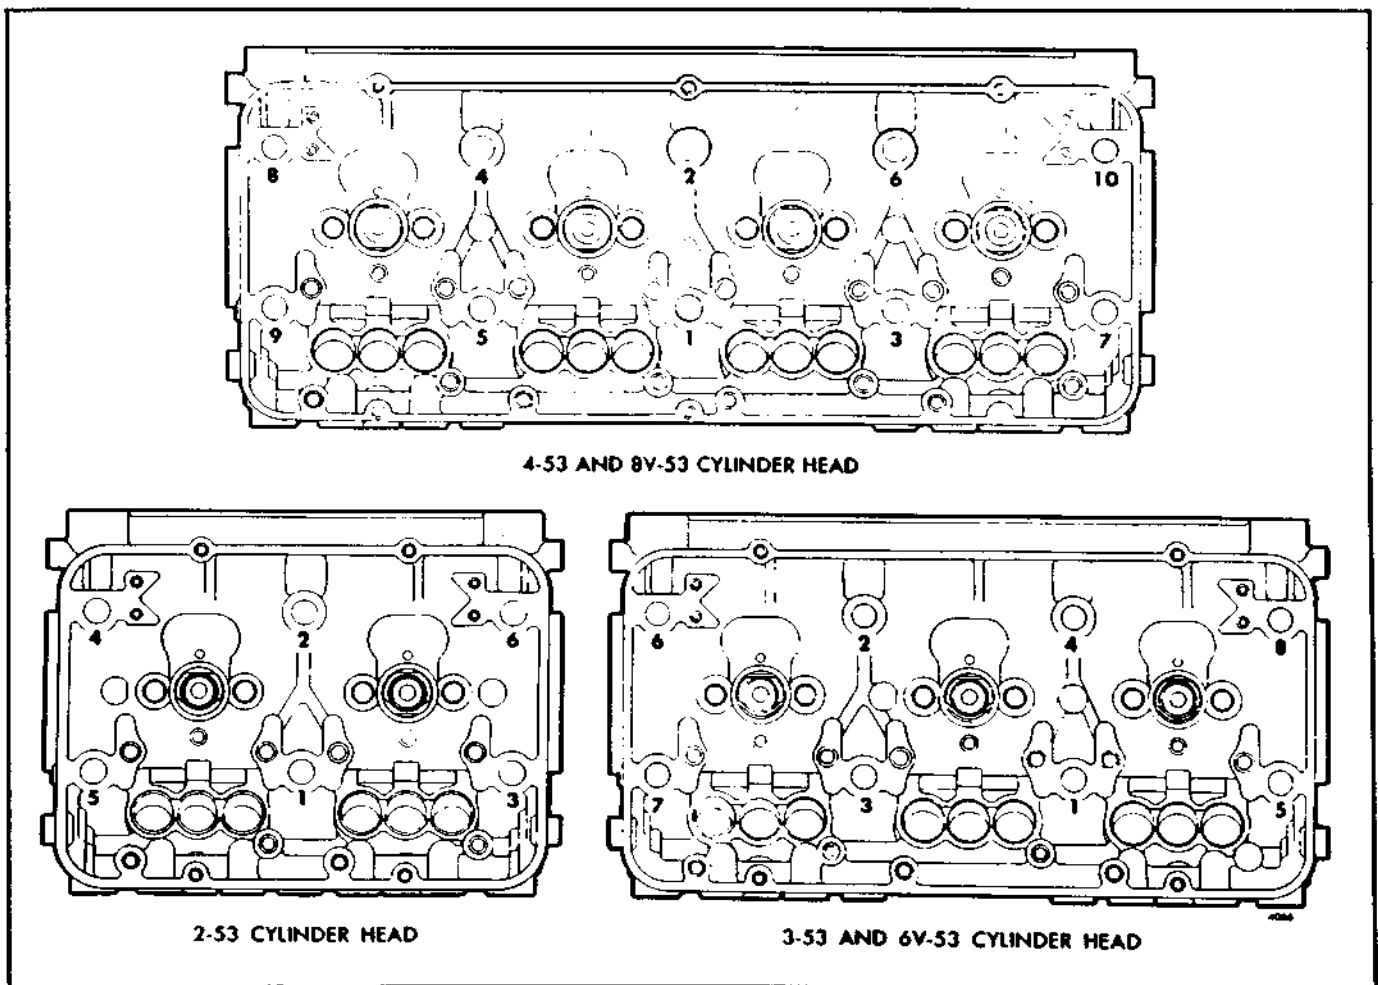

Fig. 6 - Sequence for Tightening Cylinder Head Bolts
7. Then, begin on the camshaft side of the head to take up the tension in the cam follower springs by tightening the bolts lightly. Finally tighten the bolts to 170-180 lb-ft torque with a torque wrench, about one-half turn at a time, in the sequence shown in Fig. 6. Under no circumstances should the torque exceed the specified limits, otherwise the bolts may become stretched beyond their elastic limits.